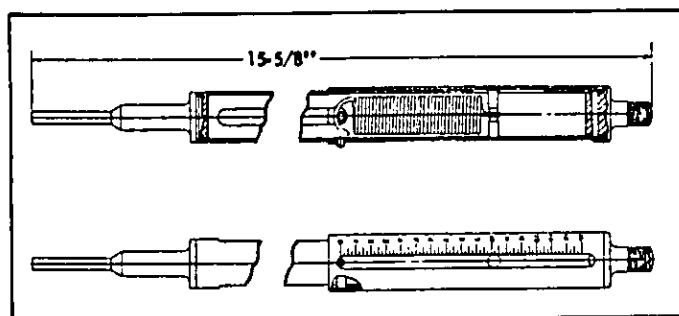

FIGURE 4 - RESISTANCE INDICATOR, Pc.No. 540100
- b. Push Pull Resistance Indicator, Pc. No. 540100 which is used to measure the resistance to movement of the piston. (See Figure 4.)
push-pull type resistance indicator, Pc. No. 540100 (Figure 4) before the valve is completely assembled and after the piston is lubricated. To measure the resistance, force the piston against the lower piston seal, then with the piston in a horizontal position, place the end of the resistance indicator against the piston seal end of the piston and force the piston inward. The force required to move the piston will be indicated on the resistance indicator and **MUST NOT** exceed 8 pounds. If the force required to move the piston exceeds 8 pounds, the piston assembly **MUST BE** removed from the body and the bushing re-gaged following the procedure of paragraph VI.2.b.(5).